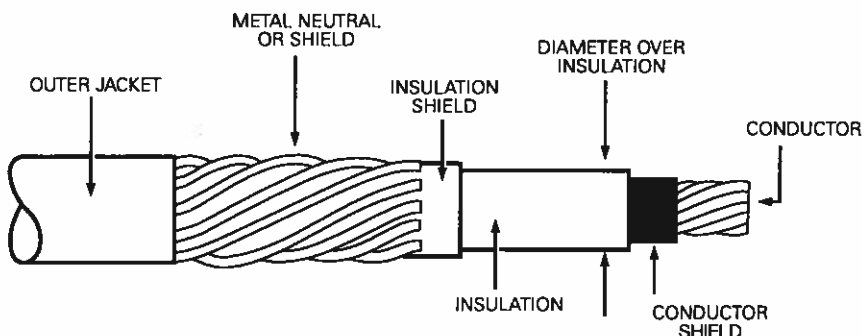

Figure 3. Illustration showing typical construction of medium voltage underground cable.
STEP 1: Determine the cable's diameter over the electrical insulation as shown in Figure 3 (including tolerances). Then identify a cable range from Table 3 that brackets the minimum and maximum insulation diameters. Select the CABLE RANGE CODE from the far right column.